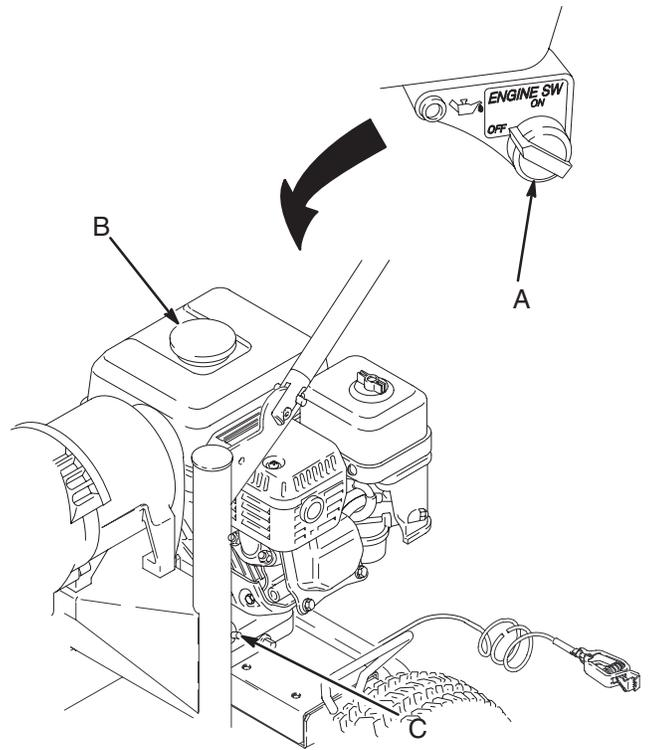

Fig. 3
5. **Check the engine oil level.** Refer to the Honda engine manual, supplied. This is a summary of the information: Remove one of the oil fill plugs (C); the oil should be almost overflowing. See Fig 3. Add oil as necessary.
- Always shut off the engine switch (A) before refueling. See Fig 3.
- Do not overfill the tank. Close the gas fill cap (B) securely after refueling. See Fig 3.